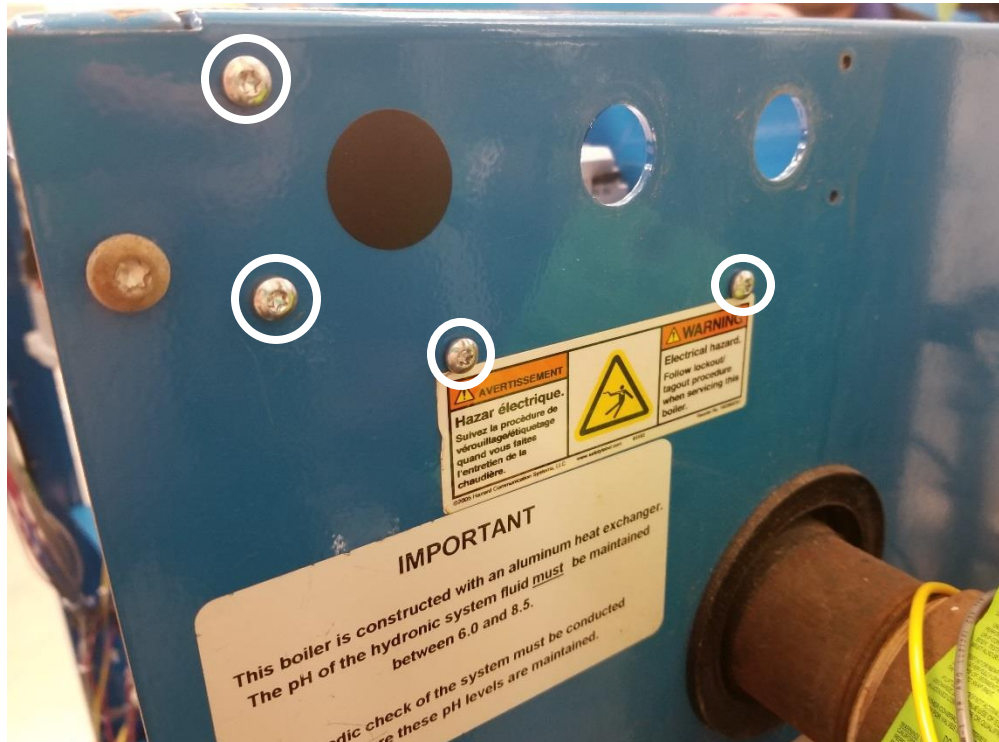

Figure 15
20. Secure right-side terminal box by lining up right four screw holes and screw into place shown in figure 15.